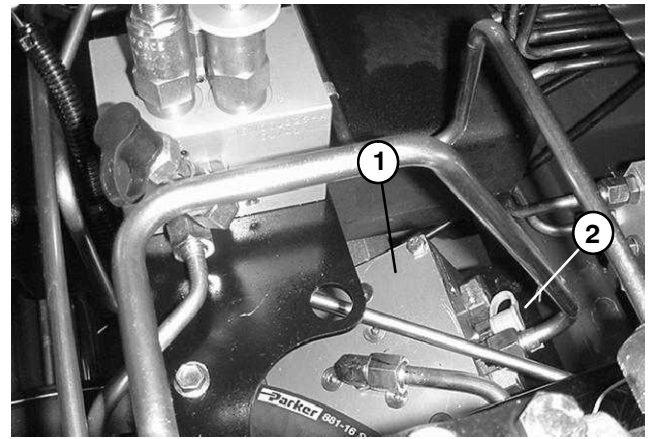

Figure 49
3. Connect a 1000 PSI gauge to test port on 2WD/4WD control manifold under operator's seat (Fig. 49).